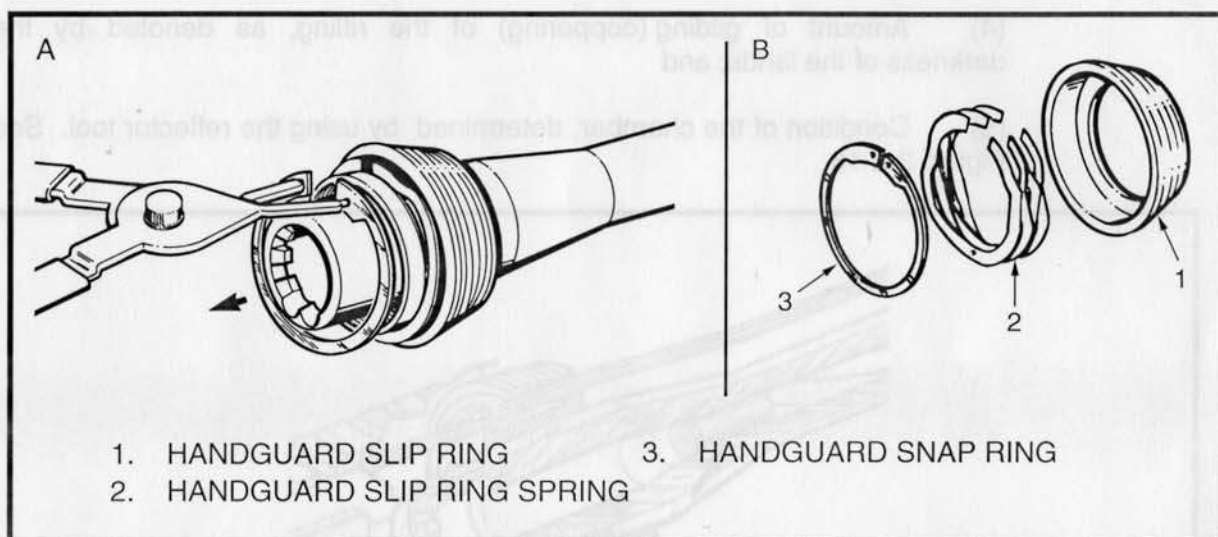

Figure 3-2-17 Disassembly of the Barrel Nut Assembly
c. To disassemble the barrel nut components, see Figure 3-2-17 and proceed as follows:
- (1) Remove the handguard snap ring (3) with a suitable pair of snap ring pliers; and
- (2) Remove the handguard slip ring spring (2) and the handguard slip ring (1) from the barrel nut.